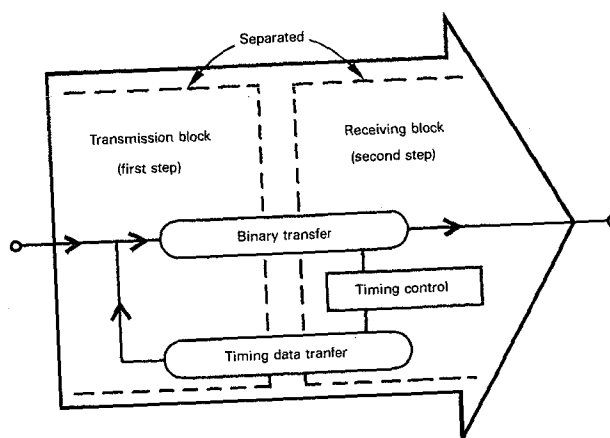

Figure 3. K2 interface diagram
- (1) Separation between block processing: The transmission block (first step) and receiving block (second step), including the power source and grounding, are totally electrically separated.
- (2) Sign transmission: The receiving block has a unidirectional transfer element, an optical coupler, for receiving binary from the transmission block, and has an extremely fast timing control circuit for completing the reception (**Figure 3**).
- (3) Timing data transmission: A unidirectional transfer element transmits the timing data between the timing control circuit and the transmission block.